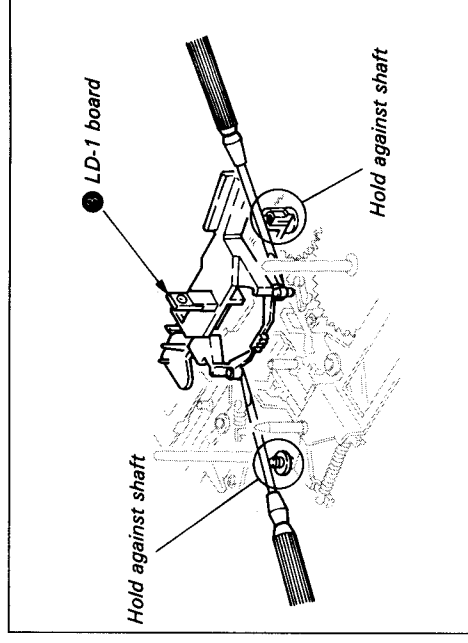

Fig. 7-37.
7-3-14. M-SW Assembly (See Fig. 7-37 ~ 39)
- 2) Remove stopper washer ❶ and the drive gear (B) assembly ❷.
- 3) Remove the LD-1 board ❸. (See Fig. 7-37.)
- 5) Remove tension spring ❹ and B release arm ❺.
- 7) Remove stopper washer ❻ and the mode output gear ❼.
- 8) Remove screw ❽ and the push switch ❾.
- 9) Remove connector ❿.
- 5) Perform 7-3-14., 1. Removal, Steps 1)~5). (See Fig. 7-37, 7-38.)